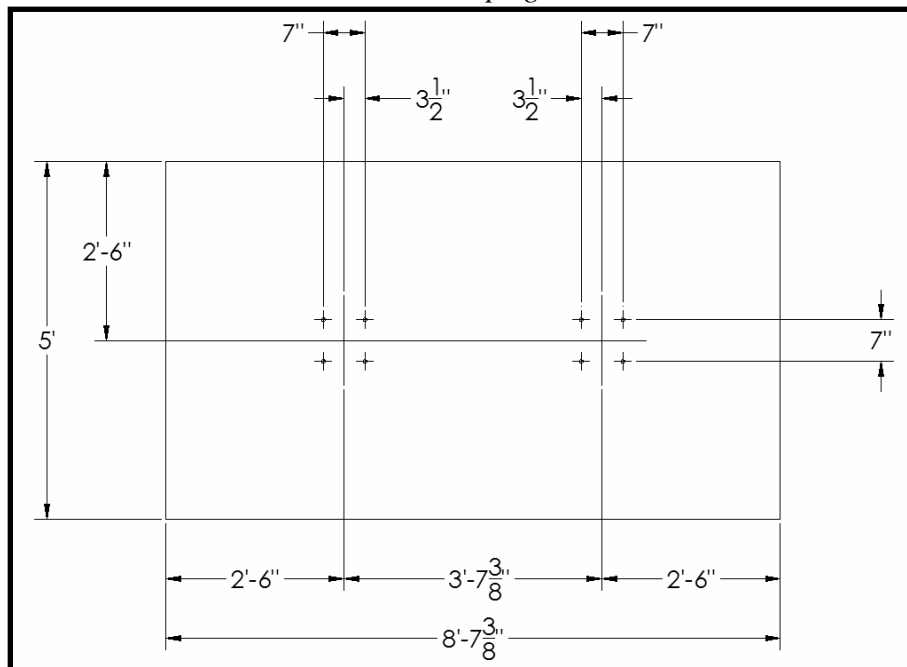

Figure 2 – vario EXPRESS™ I Anchor Hole Location
- a) Locate where the vertical upright mounting anchor holes are to be drilled using the foundation dimensions shown in *Figures 2 through 5*.